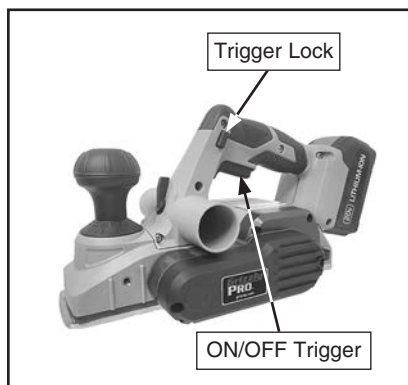

Figure 20. Hand planer controls.
5. Press trigger lock and squeeze ON/OFF trigger (see **Figure 20**). Allow cutterhead to reach full speed.